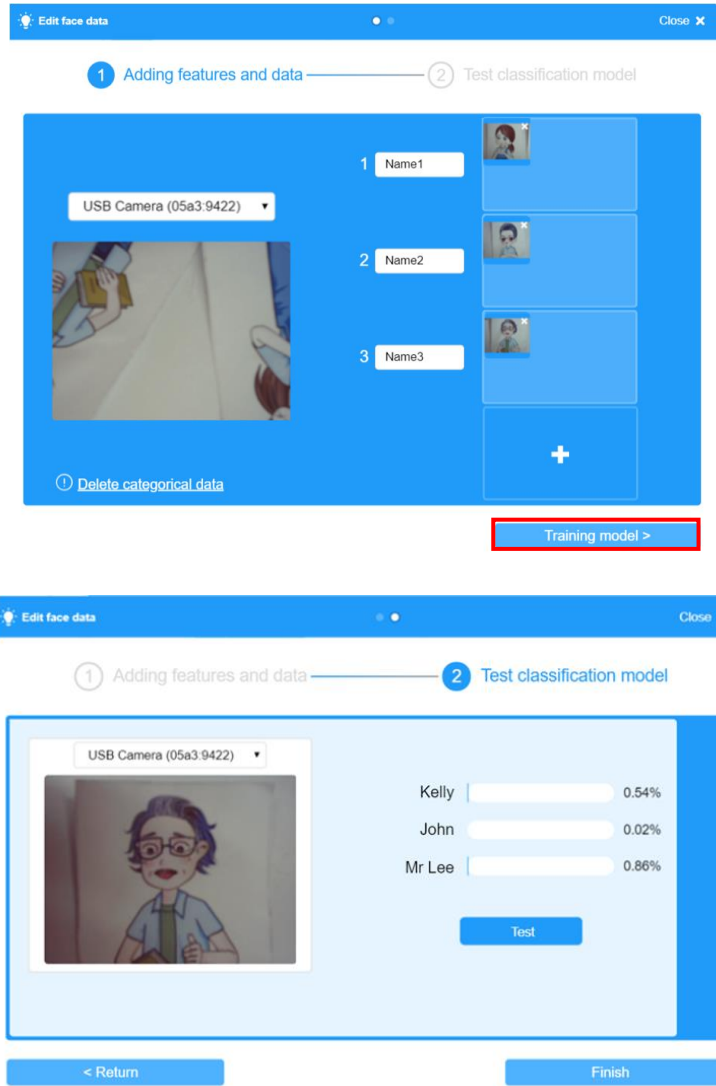

Figure 5.9 Training the model
Step 3: Train the model. The process of facial image preprocessing and feature extraction is the process of computer learning. Figure 5.9 shows the model training.